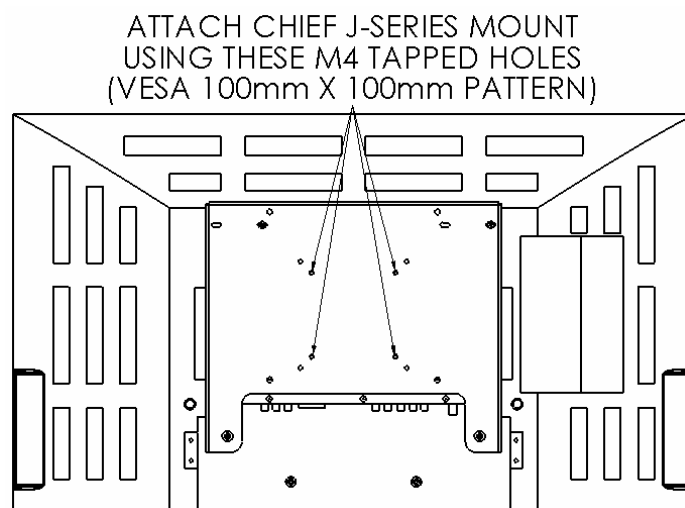

Figure 6
4. **J-Series Mounting:** Per mount instructions, use the 100mm x 100mm tapped holes on bracket to attach screen to J-Series mount (see Figure 6).